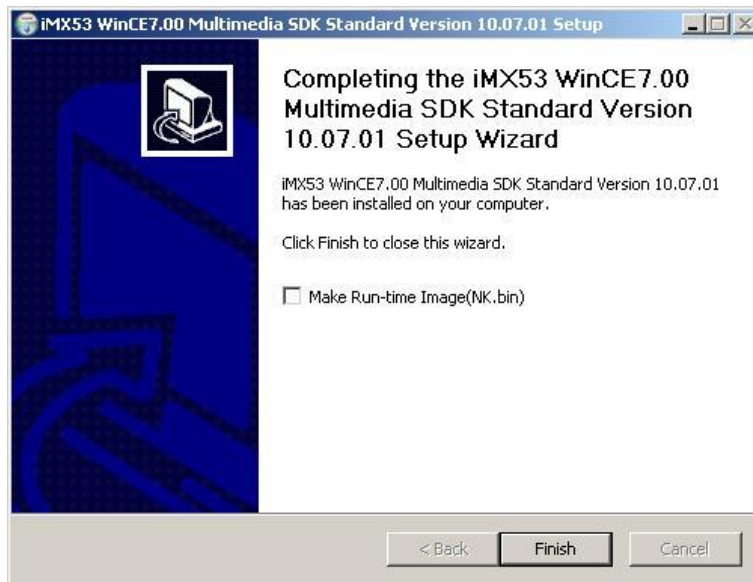

Figure 1-4 Setup Complete Screen
6. In the final installation window (Figure 1-4), you can select whether to do a clean build for the Windows Embedded Compact 7 OS image automatically.